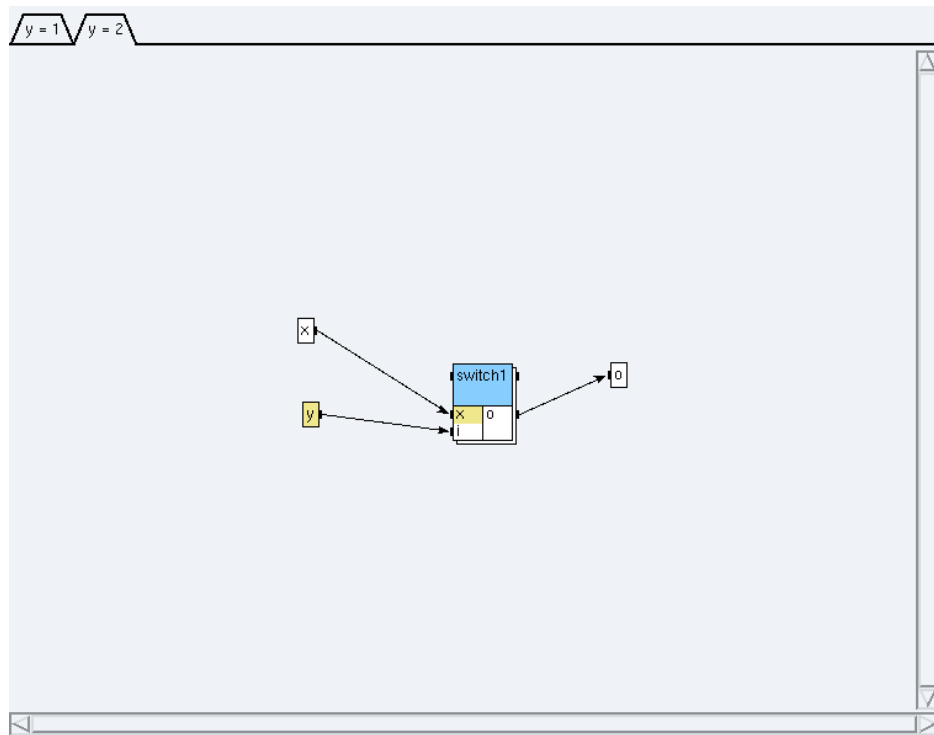

Figure 5.8: Condition $y=2$
- click on the condition $y=2$ (cf. figure 5.8) and create a reference `switch1` to the definition **switch1**;